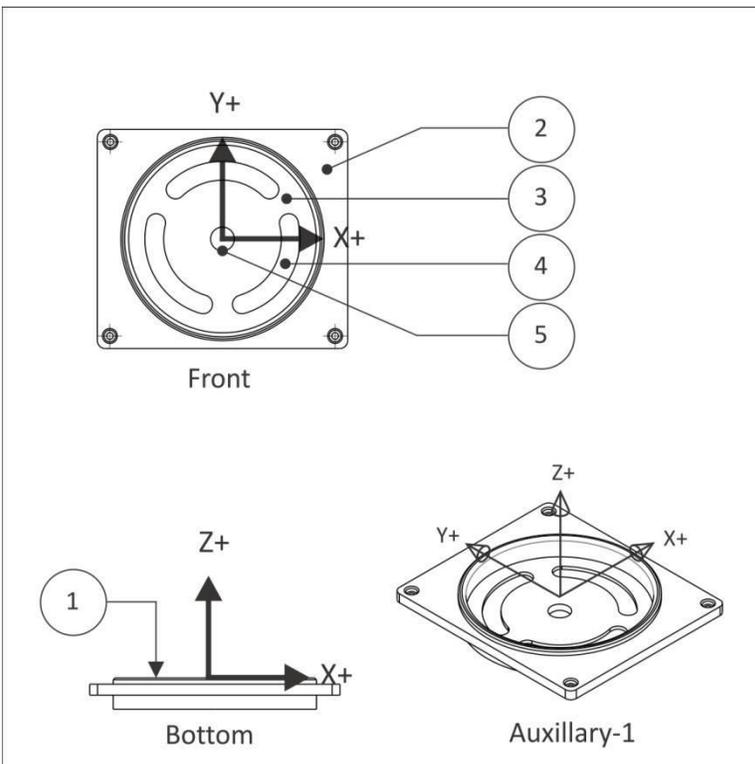
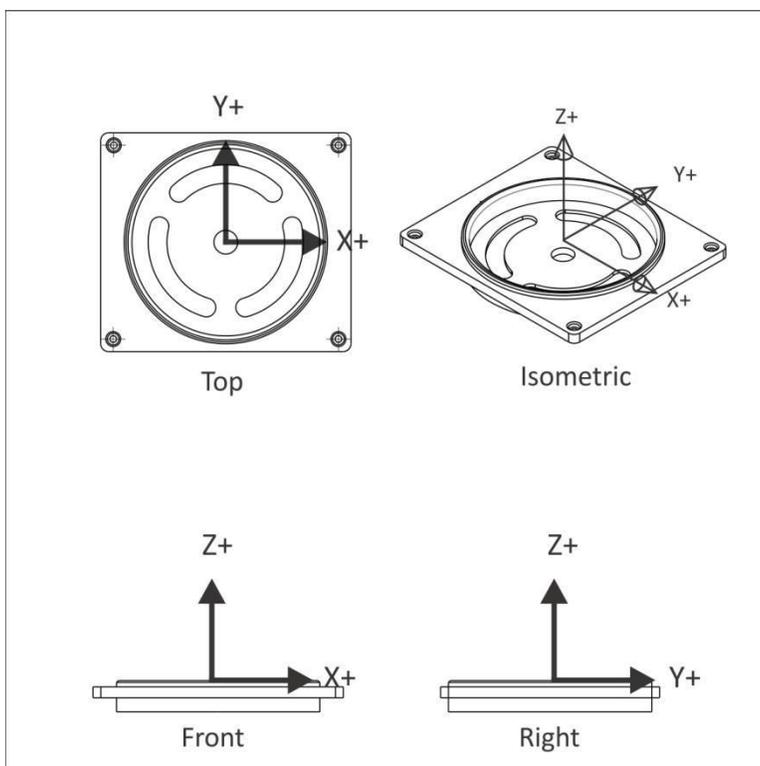

Figure 1: Prismatic Part (Orientation in CAD)
Figure 2: Prismatic Part (Orientation in CAM)
Figure 1 shows a prismatic part. All machined features lie parallel to the XY plane. Each Z-level can be machined by positioning the tool at a fixed Z-level and then moving the XY axes to remove material. machining. Every feature can be reached with the tool approaching either from the Front or Bottom views. There are several cutting planes in this example, including the model top (1), top of the face where the holes start (2), the bottom of the pocket (3) where the slots begin, the bottom of the slots (4), and the bottom of the hole through the center (5).
Figure 1 shows the part oriented as it is modeled in the mechanical CAD software. For CAM, it is helpful to display the part in the same orientation as viewed while sitting on the CNC machine. For a Vertical Machining Center (VMC) this requires updating standard views to look like those shown in Figure 2. The ---G code file is generated in relation to the Work Coordinate System (WCS), so changing views is not required for CNC programming. It simply helps visualize CNC machining processes when using CAM.
In SolidWorks to switch views from CAD space (Figure 1) to CAM space (Figure 2) to the following:
1. Open the **View Orientation** dialog and select **Front** (view) so the part displays as shown in Figure 1.